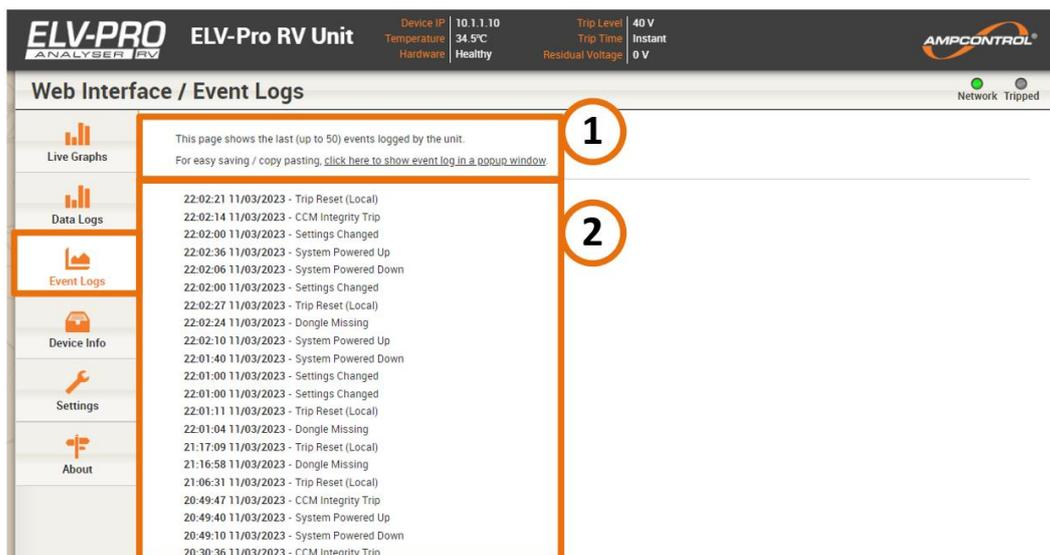

Figure 36: ELV-PRO RV Web Interface - Event Logs
This tab shows the 50 most recent user changes made at the unit, see Figure 36. To export this list, use the link above the log (item 1) to show the log entries in a separate popup window for printing or copy-pasting. The Event log descriptions can be found in **Table 9** below.